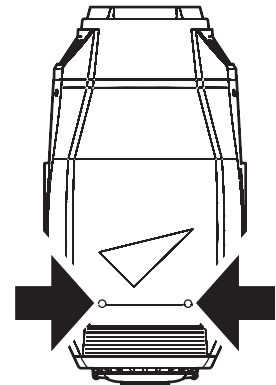

Figure 20: Head cover screws
2. Remove both head covers by loosening their quarter-turn retaining screws (see Figure 20).
3. Remove the two quarter-turn retaining screws (see Figure 20) from the top cover and lift it away from the head. Let the cover hang on its safety wire or unclip the safety wire and remove the cover completely.